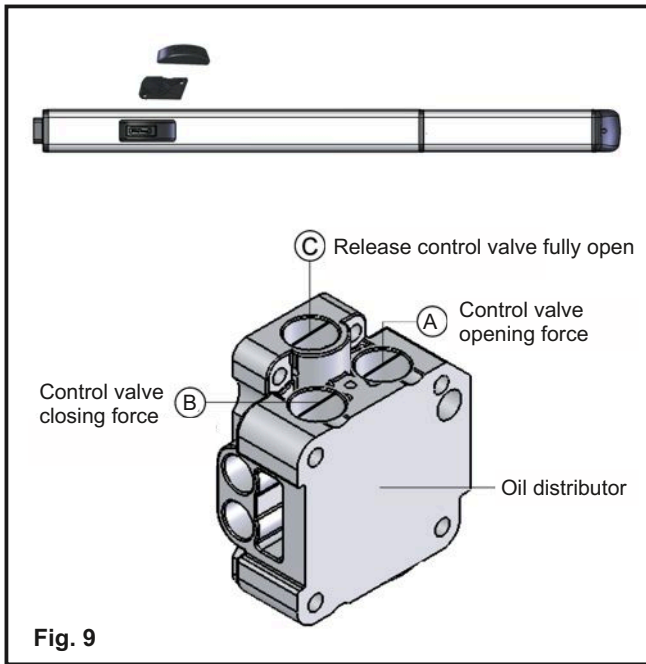

Fig. 9
4.1. SETTING ANTI-TRAP (fig.9)